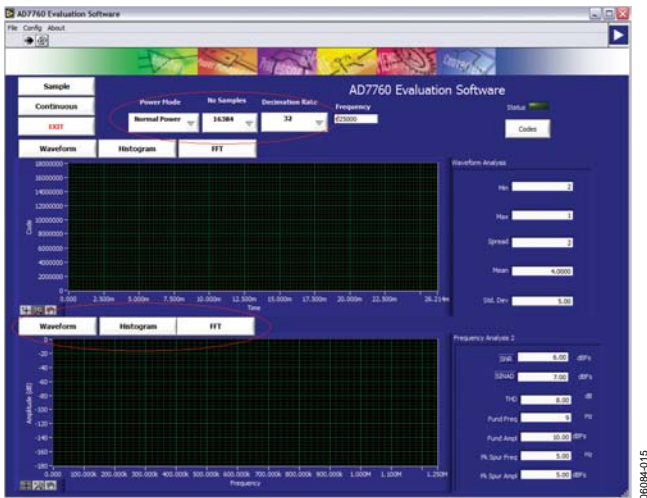

Figure 15. EVAL-AD7760/AD7762/AD7763EB Evaluation Software Front Panel Features
3. The user can specify the power mode, decimation rate, and number of samples to be acquired by using the drop-down menus on the software front panel circled in red in Figure 15. The software allows the number of samples specified by the user samples to be viewed as a waveform, histogram, or FFT. These options are also circled in Figure 15.